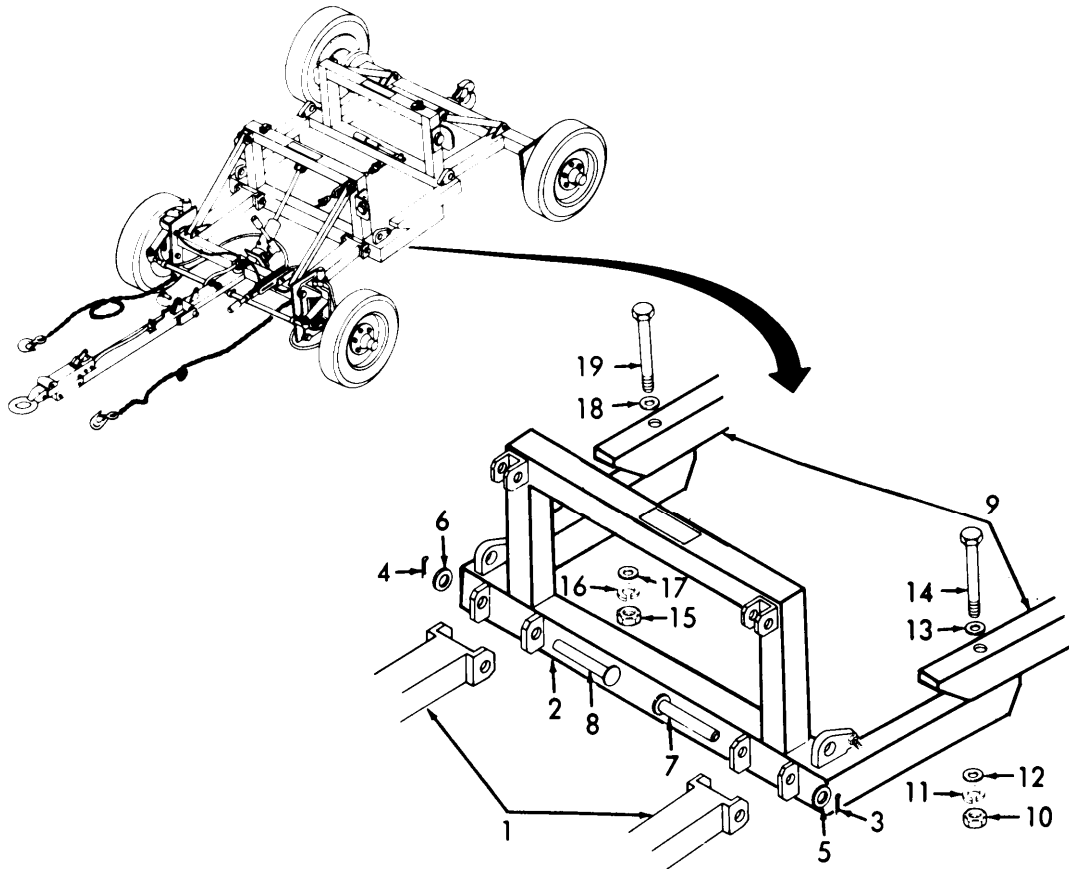

Figure 3-6. Engaging of Suspension to Axle Frame and Rear Frame.
- (2) Attach front suspension frame (1, Figure 3-6) to rear suspension frame (9).
- (b) Install bolt (19), washer (18), washer (17), lockwasher (16), and nut (15).
- (c) Install bolt (14), washer (13), washer (12), lockwasher (11), and nut (10).
- (3) Attach suspension frame (1) to tine (2).
- (a) Aline holes in suspension frame (1) with holes in tine (2).
- (b) Install pins (8) and (7).
- (c) Install washers (6) and (5), and cotter pins (4) and (3).